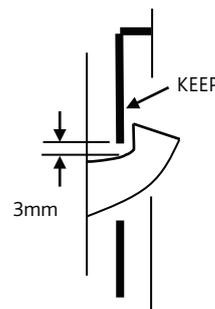

Fig 3.
- Hooks should be well engaged into their keep, nominal clearance 3mm from hook throat to keep aperture (measured vertically when locked) – **Fig 3**.